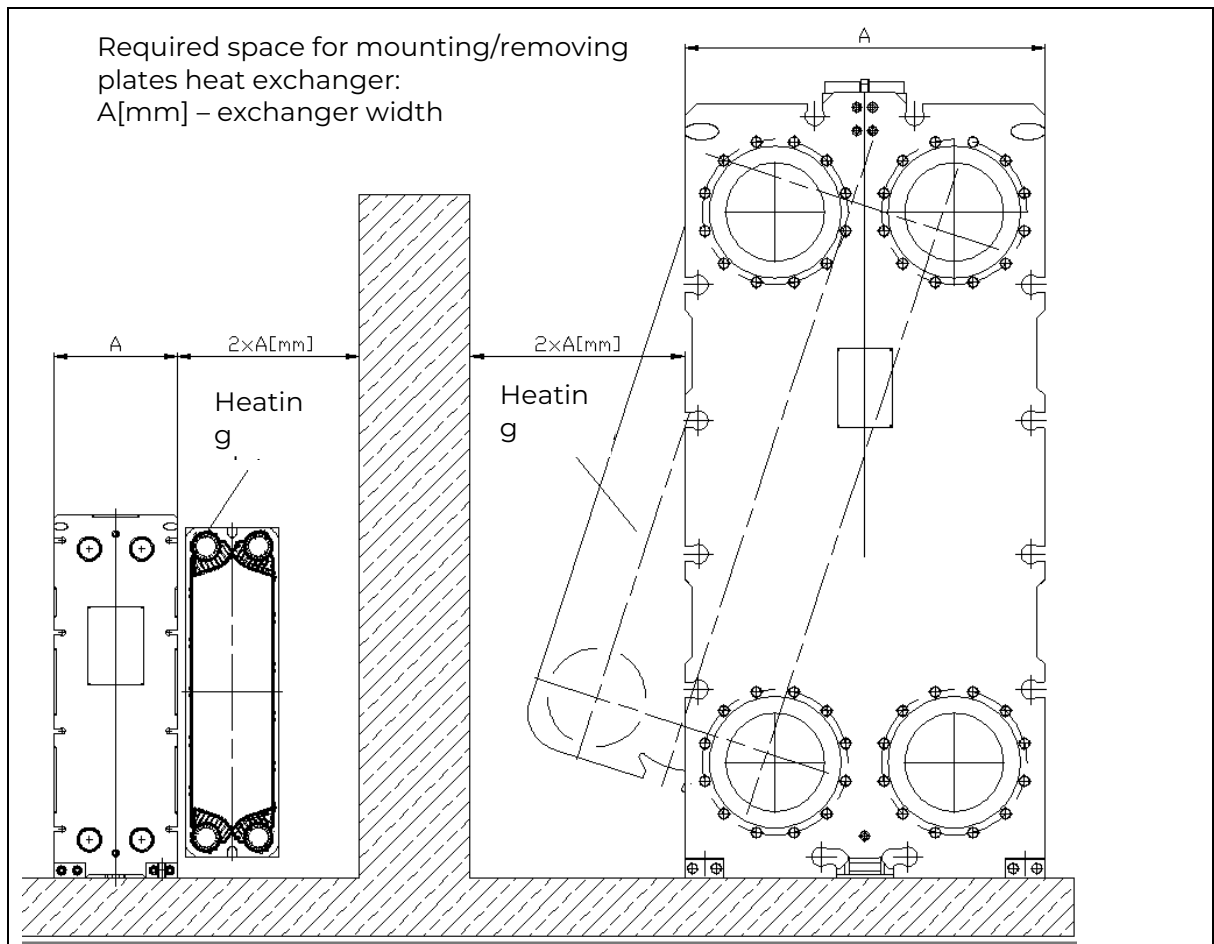

Fig. 11.2 Required space for mounting/removing plates.
- Make sure that there is sufficient space for removing plates on one side of the plate heat exchanger (*Fig. 11.2*).